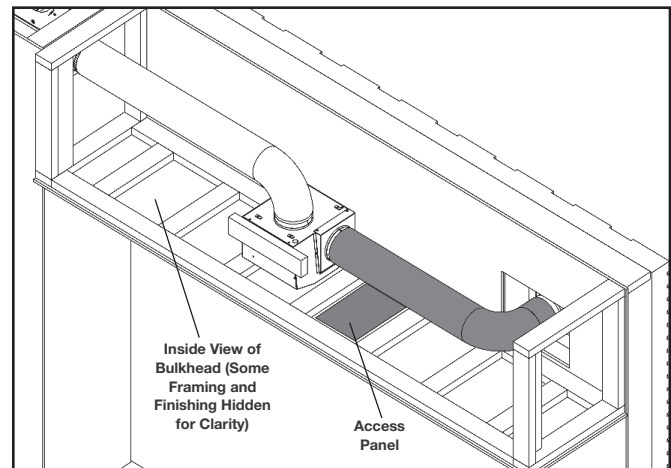

Fig. 4
4. Apply silicone to the joint after installation, and caulk or seal the flashing appropriately for the finish material (**Fig. 4**).
4. Install 6" rigid steel venting (not supplied) from the blower housing assembly outlet to the hot air exhaust assembly (Fig. 4).